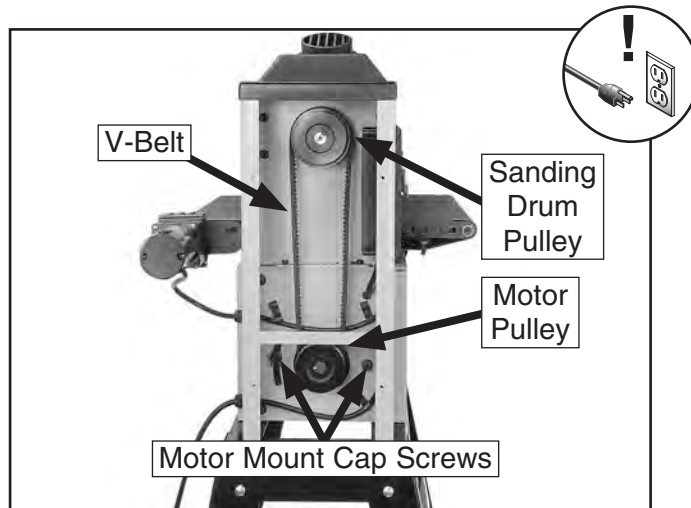

Figure 34. Belt drive system.
3. Loosen motor mount cap screws shown in **Figure 34**.
4. Lift motor pulley to de-tension belt, and tighten motor mount cap screws (see **Figure 34**) to keep motor de-tensioned during belt change.